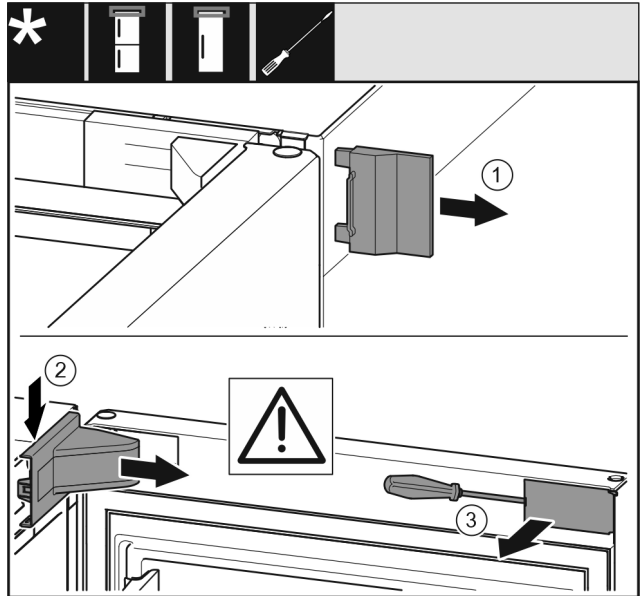

Fig. 9
- ▶ Remove the outer cover. *Fig. 9 (1)*
- ▶ Disengage and release the bearing bracket cover. Remove the bearing bracket cover. *Fig. 9 (2)*
- ▶ Unlatch the panel with a slotted screwdriver and swivel it to one side. *Fig. 9 (3)*